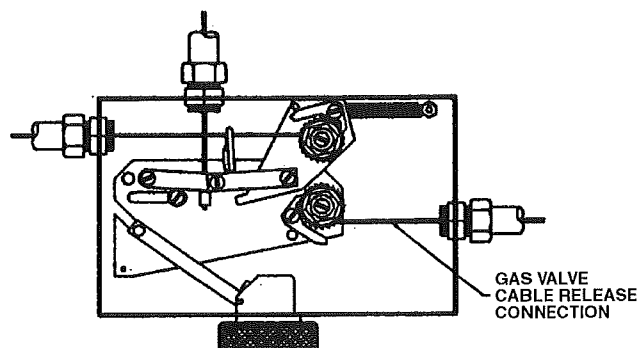

Figure 4-19. Gas Valve Line Termination.
The gas valve line can now be put into a set position by applying tension to the gas valve line. This is accomplished by using a 3/4" socket on the gas valve ratchet wheel. The ratchet wheel will be ratcheted in a clockwise direction until the gas valve is fully open. Secure the gas valve cover plate to the gas valve box with the four (4) screws provided. The gas valve line is now in a set position. See **Figure 4-19**.